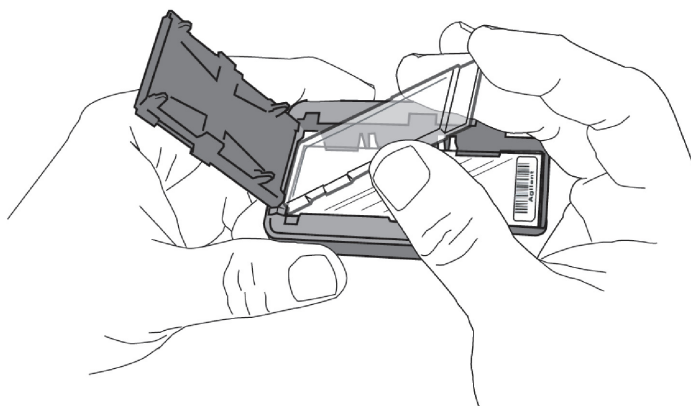

Figure 21. Inserting the ozone-barrier slide cover
- In environments in which the ozone level exceeds 5 ppb, immediately put the slides with active microarray surface (“Agilent”-labeled barcode) facing up in a slide holder. Make sure that the slide is not caught up on any corner. Put an ozone-barrier slide cover on top of the array as shown in **Figure 21**. Refer to the *Agilent Ozone-Barrier Slide Cover User Guide* (publication G2505-90550), included with the slide cover, for more information.